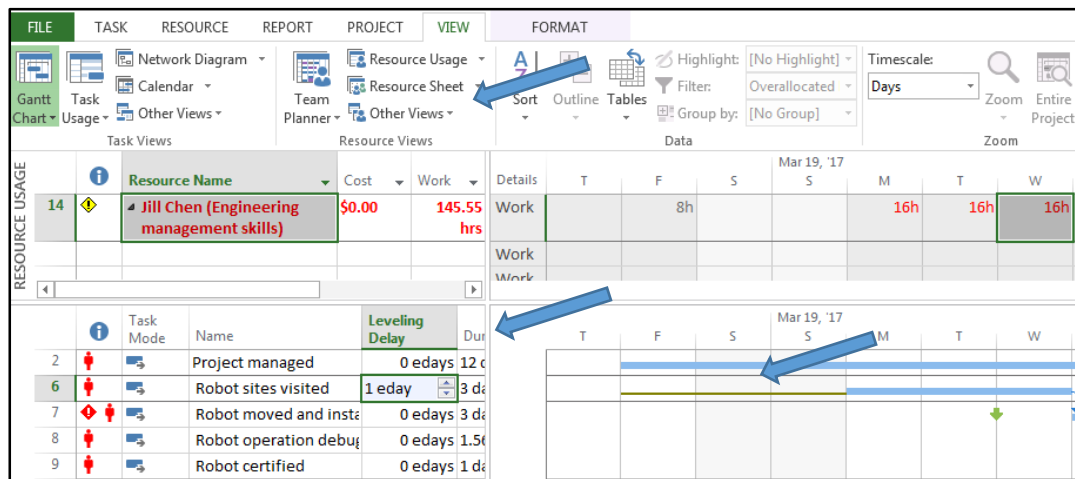

Figure 36
- Type in the number of days you want to delay the task in the Leveling Delay cell. The "e" in the Leveling Delay column stands for elapsed time. A thin line to the left of the task bar shows the leveling delay (Figure 36).